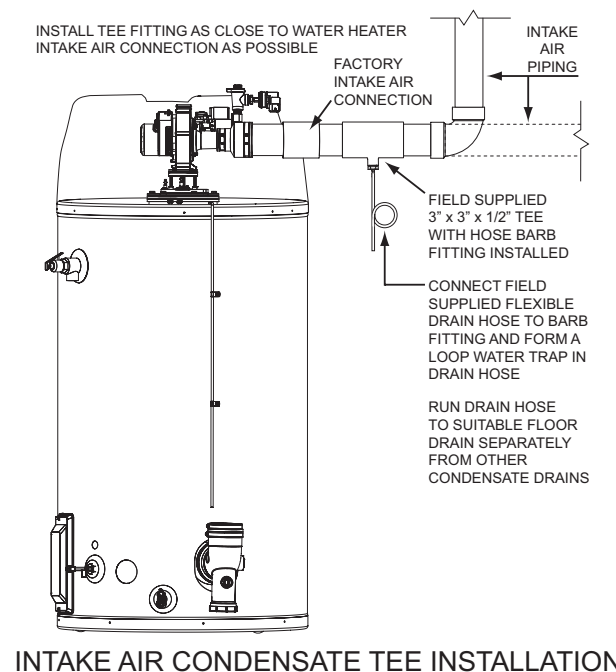

Figure 20
9. A field supplied condensate Tee fitting and drain hose should be installed in the intake air piping near the water heater in colder climates with heavy snow accumulations and in areas that regularly experience high humidity. The drain hose should be routed to an adequate floor drain separate from any other condensate drains. See Figure 20 on page 25.